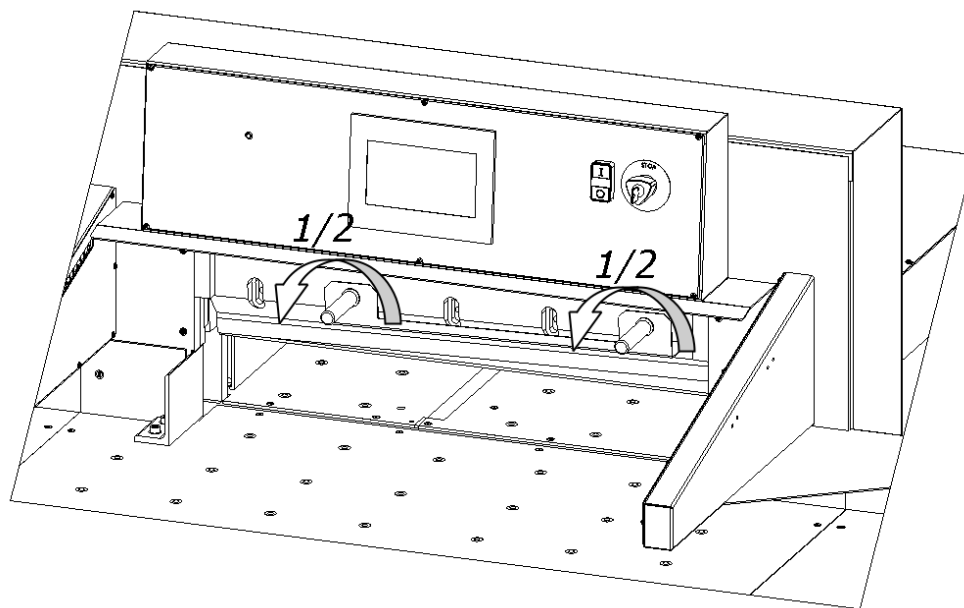
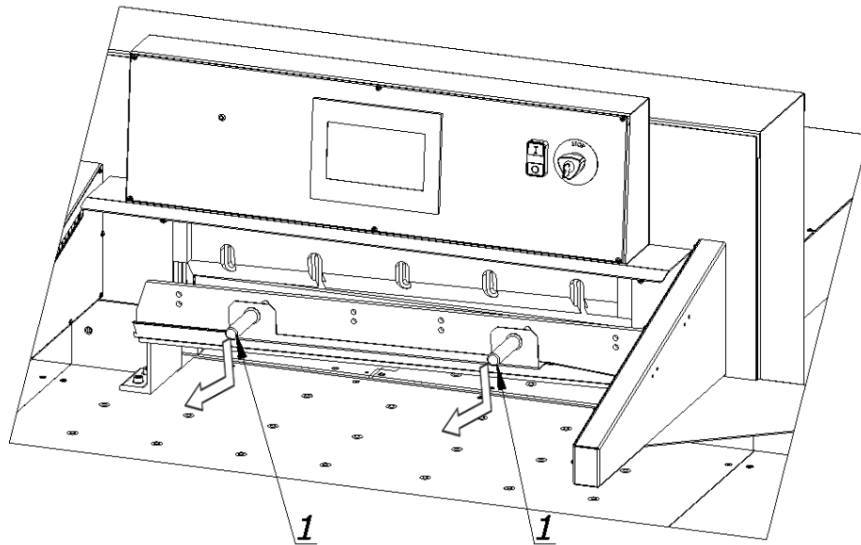
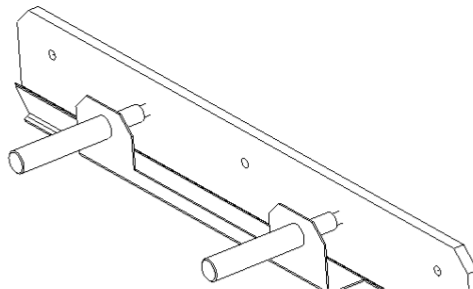

Figure 27.
Figure 28.
Figure. 29a. Knife in the transport handle
8.1.1.12 holding the blade change tool handles release the clamp by turning them 1/2 turn at a time to the left (fig. 27) and carefully pull the knife down (fig. 28). Place the removed knife into the special protective packaging (Fig. 29a - 29d) with the blade inwards and fasten it with two screws. Use the Allen key (8) wrench provided to unscrew the bolts that fix the knife to the cutter bar.
8.1.2.2. Remove the knife from the packaging (Figs. 29a to 29d)